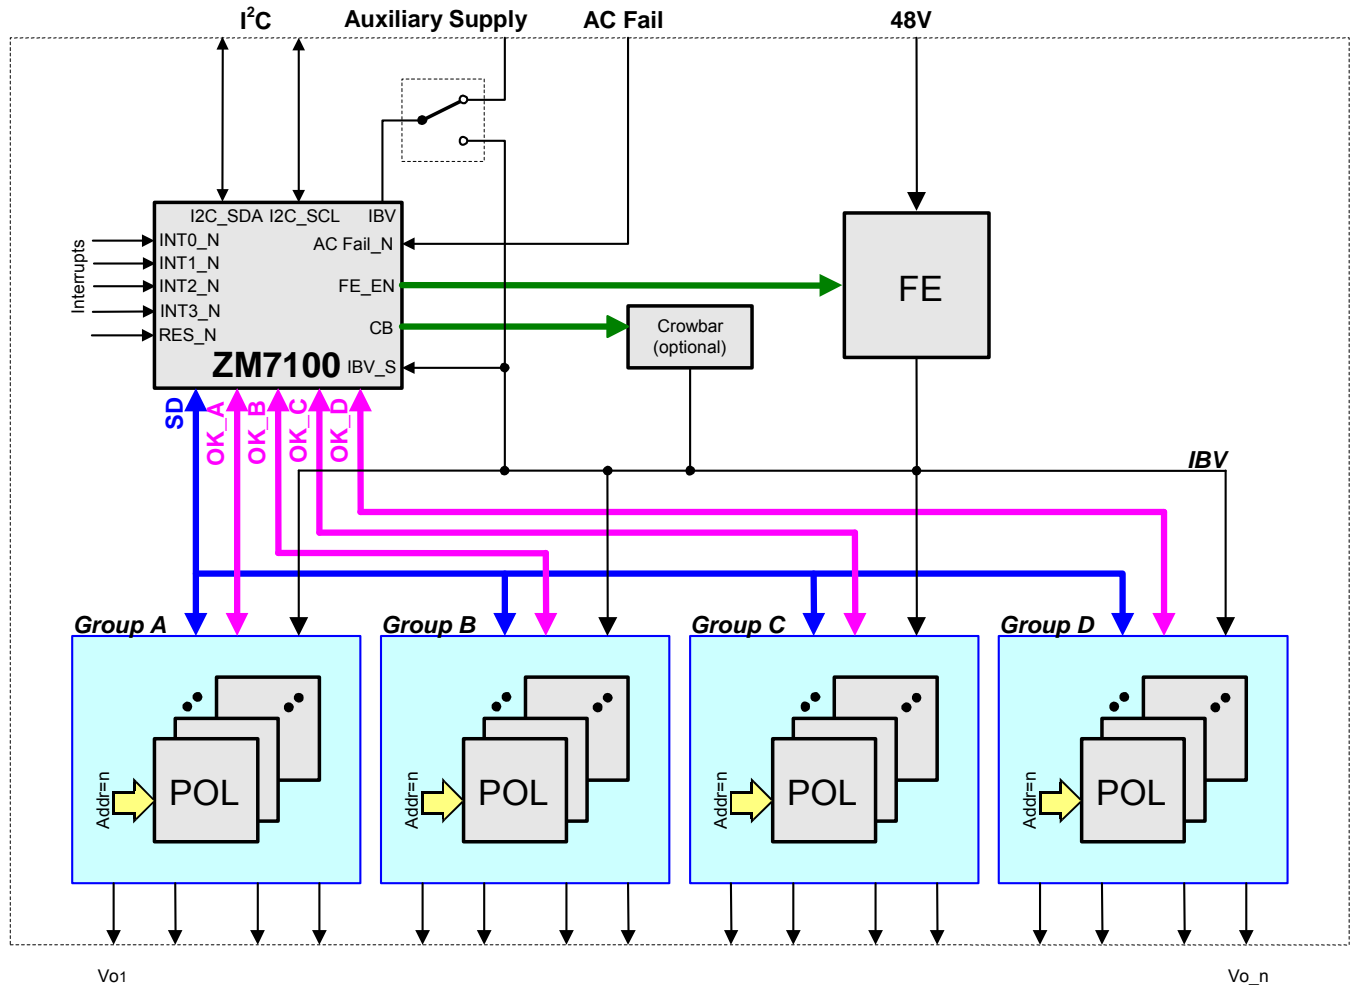

Figure 1. Block Diagram of Typical Multiple Output Application with Digital Power Manager and I²C Interface
The block diagram of a typical application of a ZM7100 digital power manager (DPM) is shown in Figure 1. The system may include up to 32 Z-series Point Of Load converters (POLs). Each POL converter has a unique 5-bit address programmed by grounding respective address pins. All POL converters are connected to the DPM and to each other via a single-wire synchronization/data (SD) communication bus. The bus provides synchronization of all POL converters to the master clock generated by the DPM and simultaneously performs bidirectional data transfer between the POL converters and the DPM. The DPM communicates in a bidirectional way via the I²C bus with the host system and/or ZIOS™ Graphical User Interface.